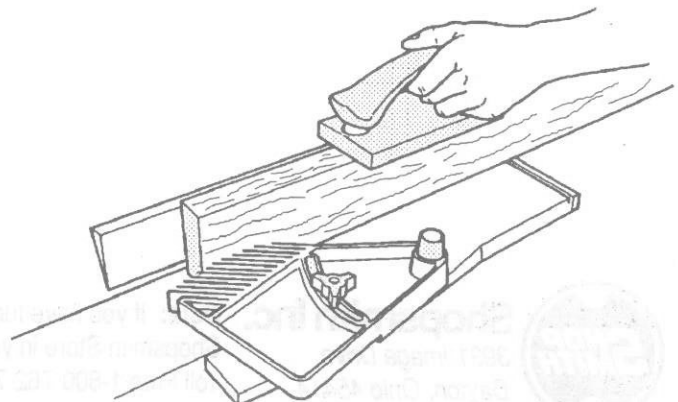

Fig. 20
6. Follow the jointing operations procedures found in the jointer owner's manual. Fig. 20 shows the Jointer Feather Guard operating while a board is being jointed.